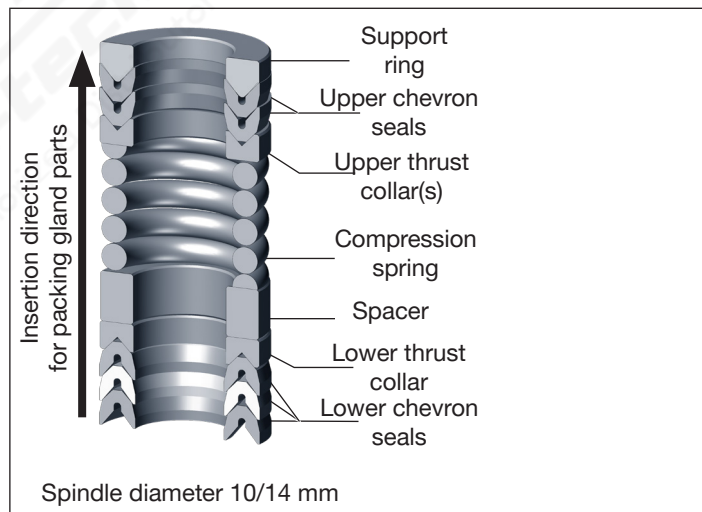
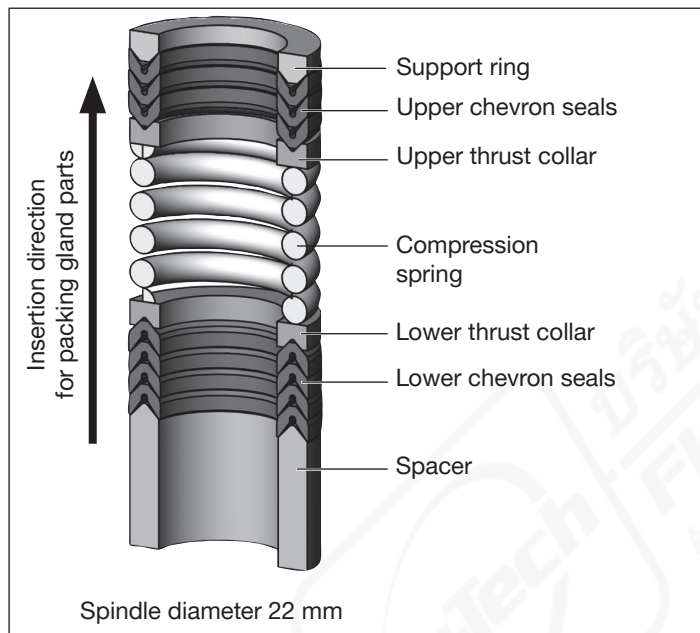

Fig. 34: Seal set for packing gland
Fig. 35: Seal set for packing gland SP22
- Place individual parts on the spindle in the specified direction and sequence (see “Fig. 34” or “Fig. 35”).